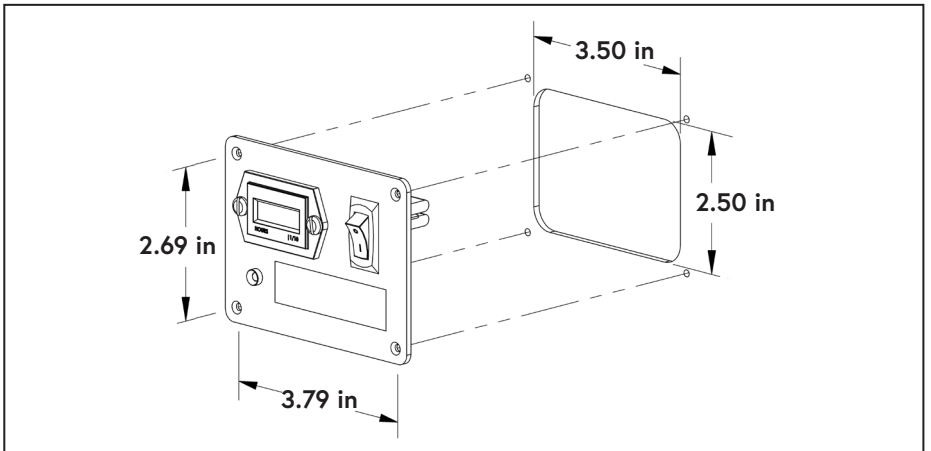

Figure 52 — Interface panel mounting dimensions
- Install the interface panel in a suitable location (Figure 52).